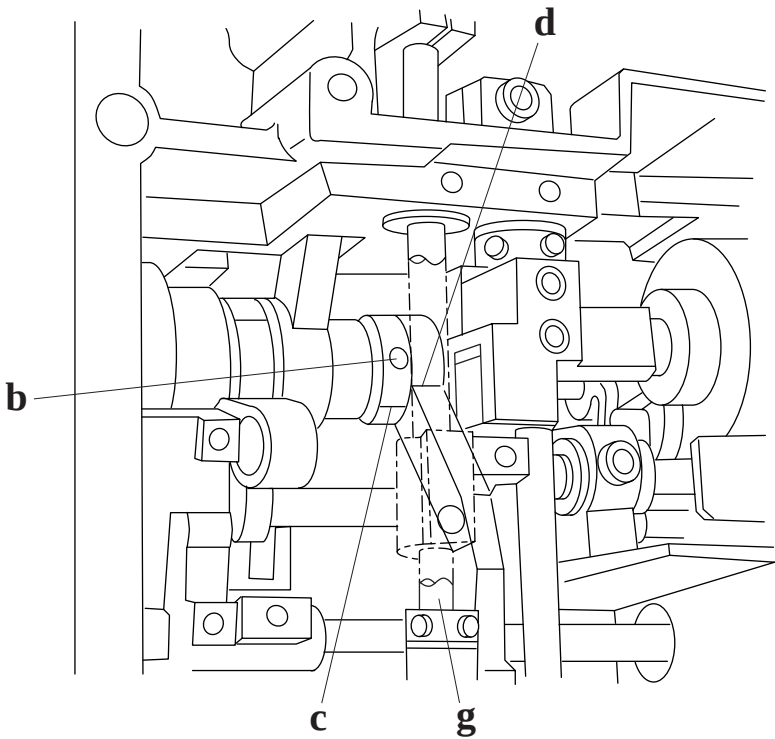

Fig.7
2. Make sure that there is no axial play on chain looper shaft "**a**". If necessary, adjust with stop collar inside shaft "**g**" in Fig.7 on page 12c.
If necessary, loosen screws "b" of eccentric, align eccentric mark "c" with mark "d" and tighten both screws "b". Recheck the adjustment.(Fig.7)